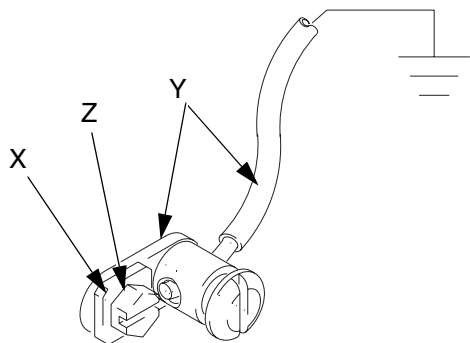

FIG. 4: Ground Screw (King air motor only)
If you have the ground screw (Z) shown in FIG. 4 (King air motor only), you need to order part no. 222011 ground wire, ring terminal, and clamp assembly (Y). To install 222011, remove the ground screw (Z) and insert it through the eye of ring terminal (X), then tighten ground screw back into air motor as shown in FIG. 4. Connect the other end of the wire to a true earth ground.